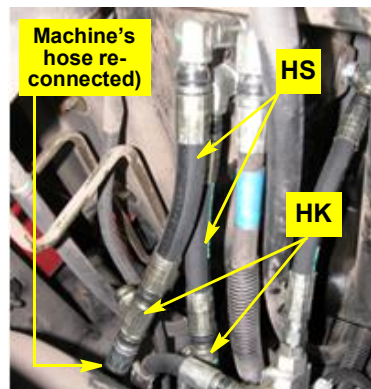

Figure 7d: Jumper hoses connected to T and P ports at orbital. Machine's hoses reconnected at union tees (one shown).
- d. Install a jumper hose **HS** between the pressure and tank fittings on the orbital and a 'T' end of a union run-tee **HK**. Reconnect the machine's pressure and tank hoses to the open 'T' end of **HK** (Figure 7d).